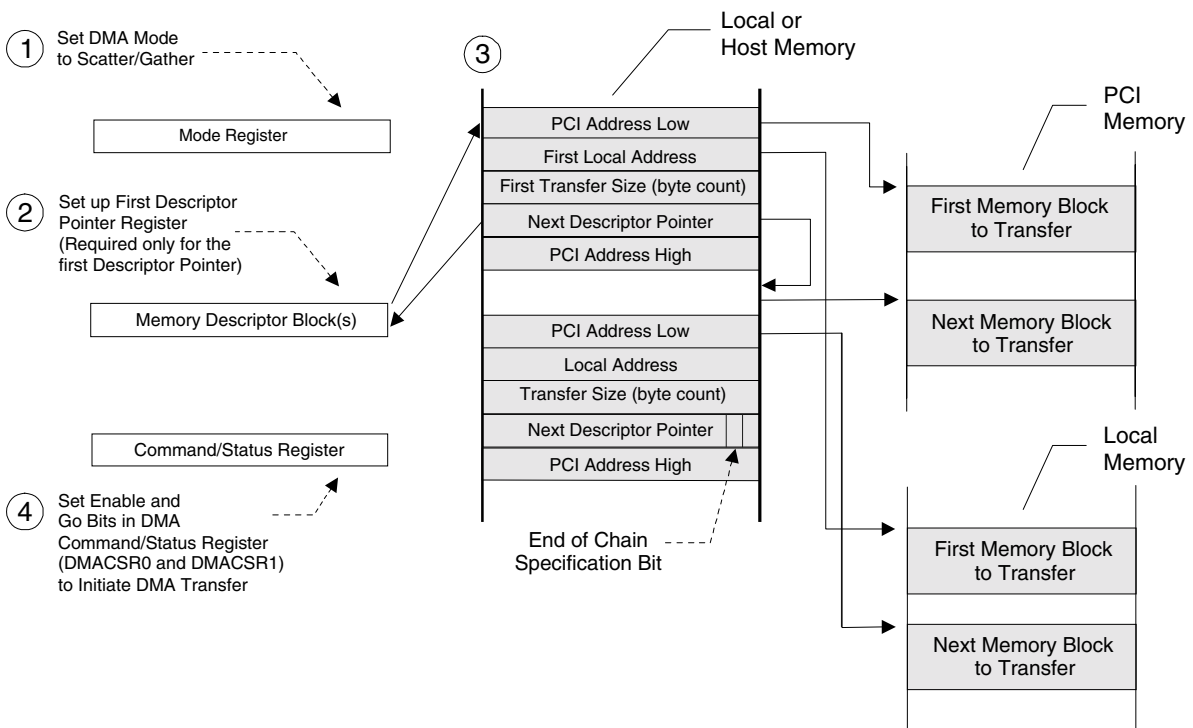

Figure 3-18. Scatter/Gather DMA Mode Descriptor Initialization [DAC PCI Address (DMAMODE0[18], DMAMODE1[18]) Descriptor Dependent (PCI Address High Added)]
- DMADAC0 and/or DMADAC1 contain(s) an 0x00000000 value. DMAMODE0[18] and/or DMAMODE1[18] is set to 1. The PCI 9656 performs a SAC five-Lword descriptor block load from PCI memory and DMA transfer with DAC on the PCI Bus. (Refer to Figure 3-18.)
- DMADAC0 and/or DMADAC1 contain(s) a non-zero value. DMAMODE0[18] and/or DMAMODE1[18] is set to 1. The PCI 9656 performs a SAC five-Lword descriptor block load from PCI memory and DMA transfer with DAC on the PCI Bus. The fifth descriptor overwrites the value of the DMADAC0 and/or DMADAC1 register(s). (Refer to Figure 3-18.)